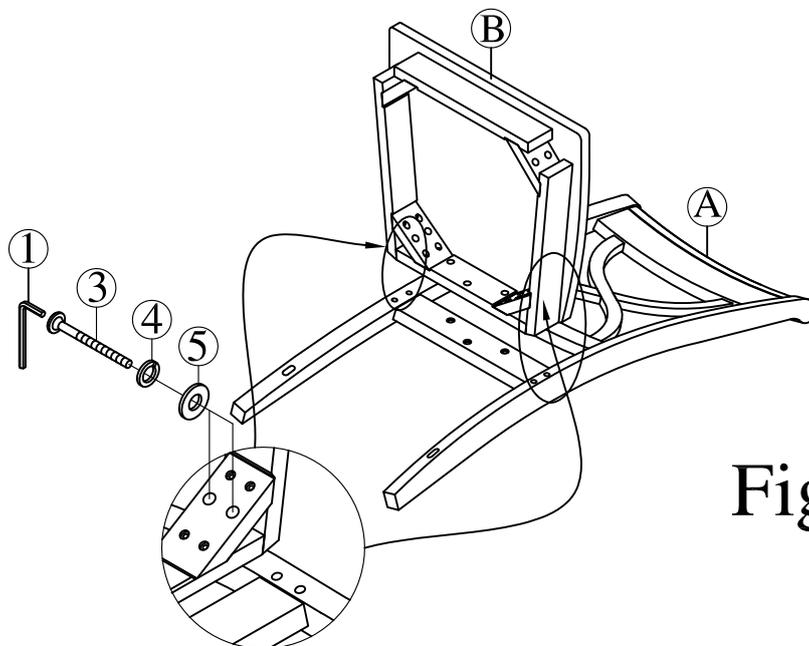

Fig.2
Chair Backrest (A) as shown in Fig. 2 .